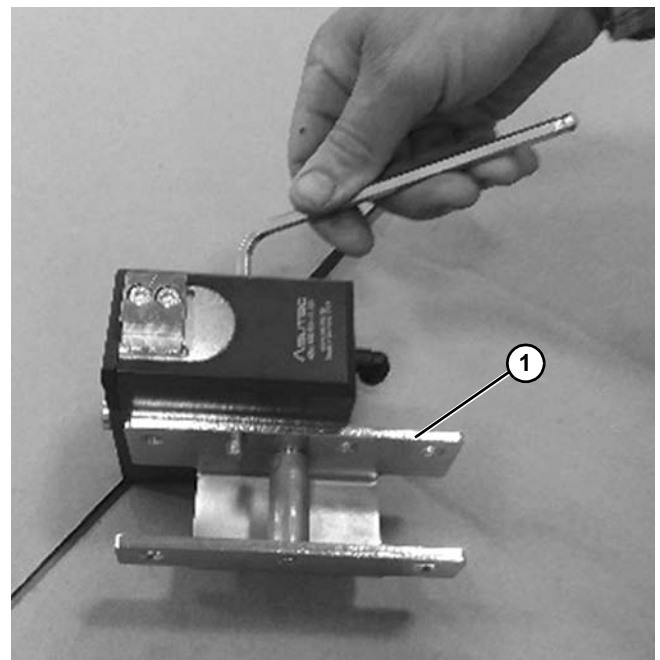

Figure 9
3. Tighten fasteners to secure bracket (**Figure 9, item 1**) back onto pallet stop.